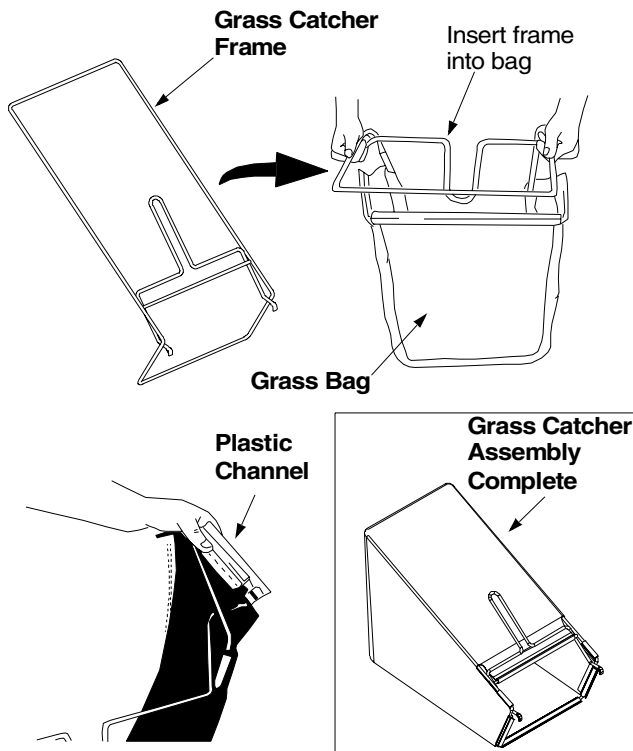

Figure 9
- Insert frame into grass bag with the black plastic side on the bottom of bag. See Figure 9.
- Slip the openings in the side of the plastic channel on bag over the hooks on the grass catcher frame. Secure bag to the frame by working the six plastic channels on bag over frame. All of the plastic channels except the center top of the bag attach from the outside of bag. The center top of the bag attaches from inside the bag. See Figure 9.